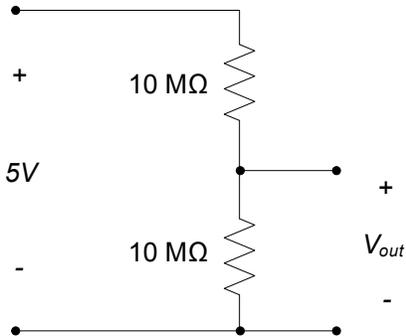

Figure 1. Circuit schematic.
Very large resistors are used in the voltage divider circuit of Figure 1. Due to these large resistances, measurement of the voltage  $V_{out}$  will likely result in measurement errors due to non-ideal voltmeter effects.
Analyze the circuit of Figure 1 to determine an expected value for the measured voltage  $V_{out}$  for the cases in which
Per section 2.5 of the text, a voltmeter can be modeled as an equivalent resistance  $R_M$  in parallel with the voltage being measured. Thus, the circuit of Figure 1, with the voltmeter resistance included, becomes as shown in the figure to the left below. The parallel combination of the voltmeter and the  $10M\Omega$  resistor can then be represented as a single equivalent resistance  $R_{eq}$  as shown in the figure to the right below, where
From the above, it can be seen that if  $R \gg R_M$ ,  $R_{eq} \approx R$  and the measured  $V_{out}$  will be essentially the same as the  $V_{out}$  indicated in Figure 1. If, however, this condition is not true, the voltmeter's internal resistance can have a significant (and generally undesirable) effect on the voltage being measured.
a) Construct the circuit of Figure 1. Measure the voltage  $V_{out}$  using your DMM. Using your pre-lab results, estimate the internal resistance of the voltmeter.